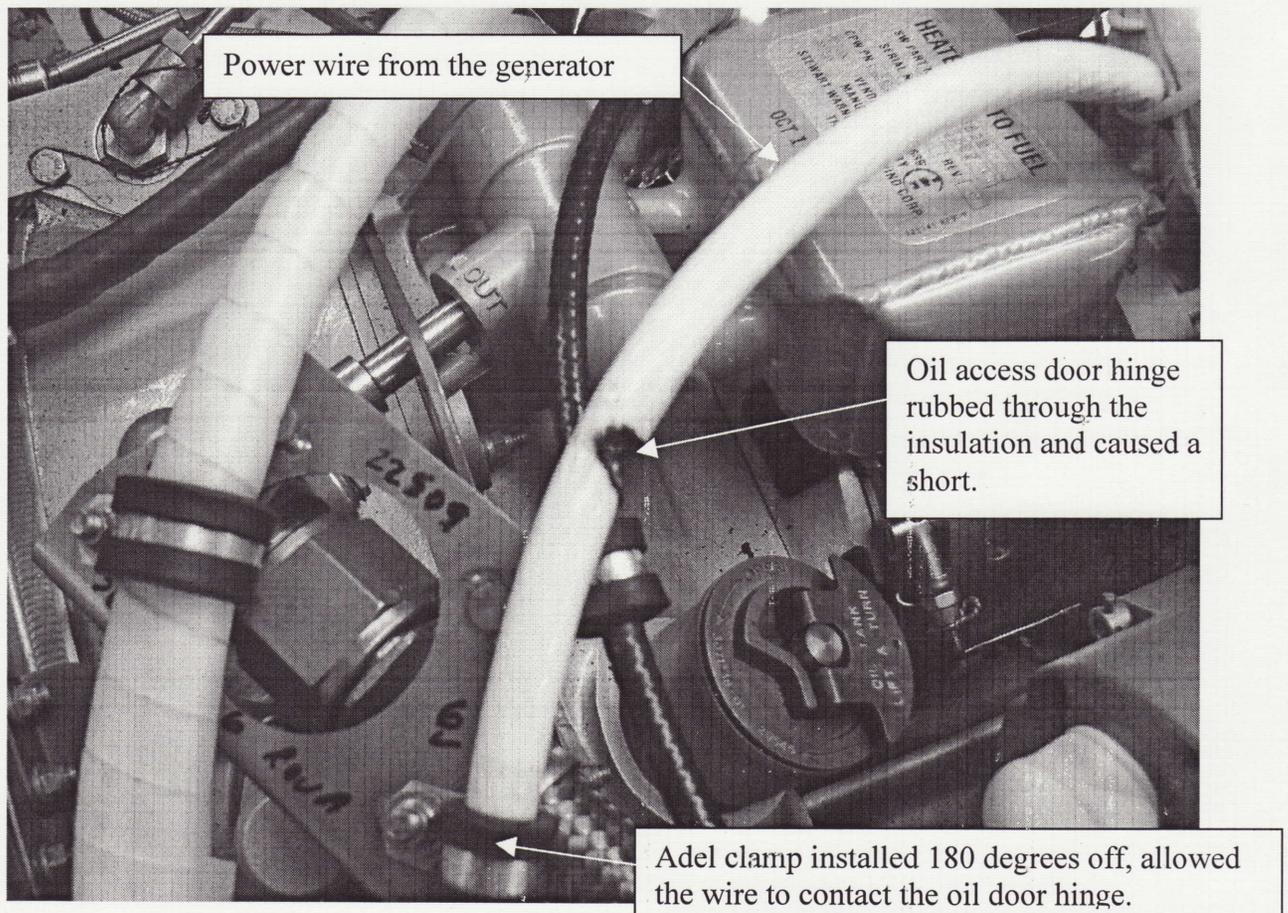

Figure 1. Improperly Routed Wire (Looking Down on the Accessory Gear Box Area)
PROBLEM IDENTIFIED: It has been discovered that an improperly routed primary power wire from the generator could contact the oil access door hinge and over time wear through the insulation causing an electrical short and potential electrical fire (Figure 1).
- (2) **At the next maintenance event.** Remove the top cowling and inspect the electrical wiring from the generator to the firewall for security and chafing. If any chafing has occurred, correct the problem and replace and secure the wire as necessary. Special emphasis should be placed on the security of the wires around the oil access door hinge when the door is closed. The wires must be secure and there should be at least 1 inch of clearance between the wires and the door hinge when the door is closed. The adel clamp (on the 560.07.706 Cable Bracket attached to the oil line on the top of the engine) holding the primary power wire from the generator should be oriented as shown in Figure 3 to give the needed spacing between the wire and the oil door hinge. If the adel clamp is orientated improperly as shown in Figure 1, correct the